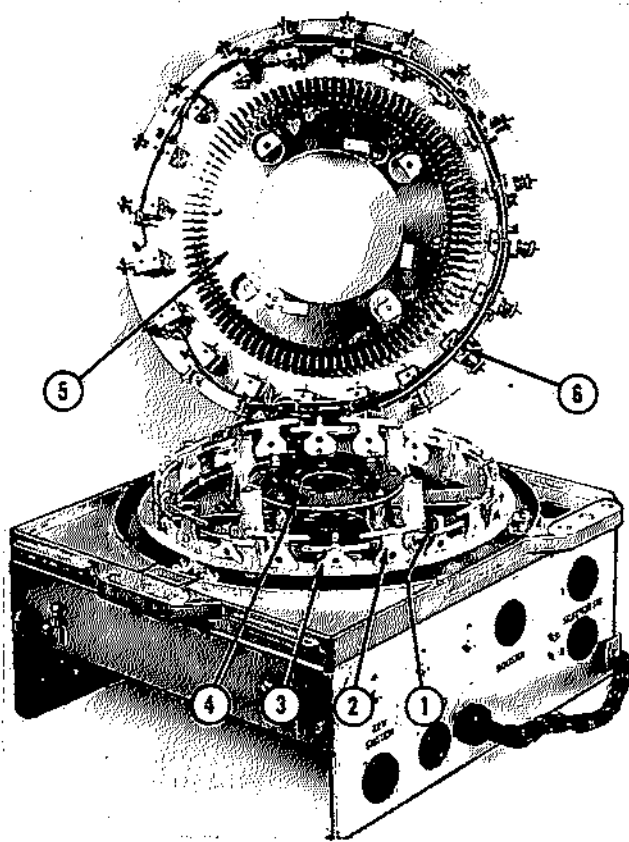

FIG. 26. ELECTRIC SELECTOR ASSEMBLY - 2610
(2) The Adjusting Screw (Item 9) should be set to align the tips of the 20 Rocker Arms (Fig. 26, Item 1) with 10 Selector Pins number 3, A through K and 10 Selector Pins number 8, A through K. This is the normal rest position for the Rotating Plate and Rocker Arm Assembly.
(c) The right hand intermediate stop position should be checked by manually operating the Stop Magnet Armature (Item 1) and moving the Rotating Plate and Rocker Arm Assembly to position the Stop Bracket (Item 4) against the Stop Tab (Item 5) on the Armature. In this position the tips of the 20 Rocker Arms (Fig. 26, Item 1) should be in alignment with 10 Selector Pins number 2, A through K and 10 Selector Pins number 7, A through K. Should adjustment be required the Stop Tab (Fig. 25, Item 5) may be formed.
(d) The left hand intermediate stop position should be checked in the same manner as for the right hand intermediate stop. The Stop Bracket (Fig. 25, Item 4) should be manually held against the Stop Tab (Item 3) on the Stop Magnet Armature. In this position the tips of the 20 Rocker Arms (Fig. 26, Item 1) should be in alignment with 10 Selector Pins number 4, A through K and 10 Selector Pins number 9, A through K. Should adjustment be required the Stop Tab (Fig. 25, Item 3) may be formed.